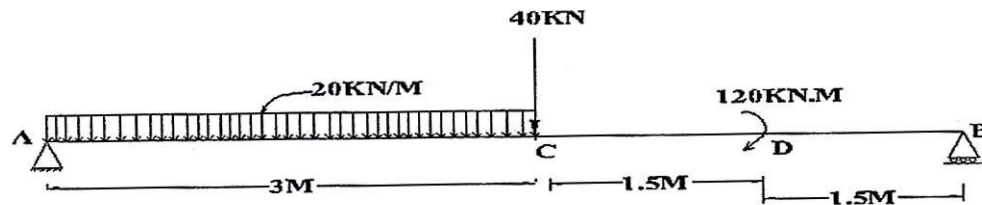

Fig. 5
5. (a) Draw shear force and bending moment diagram for the beam as shown in Fig. 5 : [6]